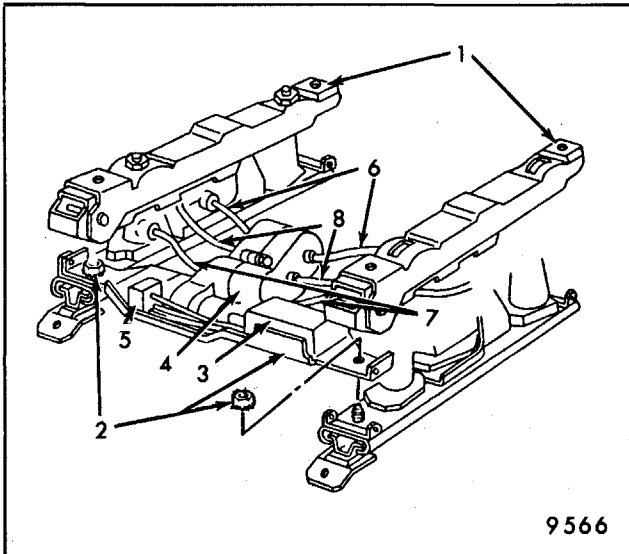

Fig. 9-50 - Power Six-Way Seat Adjusters - All 45-55, 50-50 and 60-40 Seats (Except Cadillac 6CB69 Style)
5. Figure 9-50 - Power Six-Way Adjusters - All 45-55, 50-50 and 60-40 Seats (Except Cadillac 6CB69)
3. On power operated full width seats, disconnect drive cables at adjuster being removed, squeeze oblong connector to detach. On power operated 60-40, 50-50, 45-55 or bucket seats remove bolt securing motor and transmission support to adjuster being removed (see Fig. 9-50).